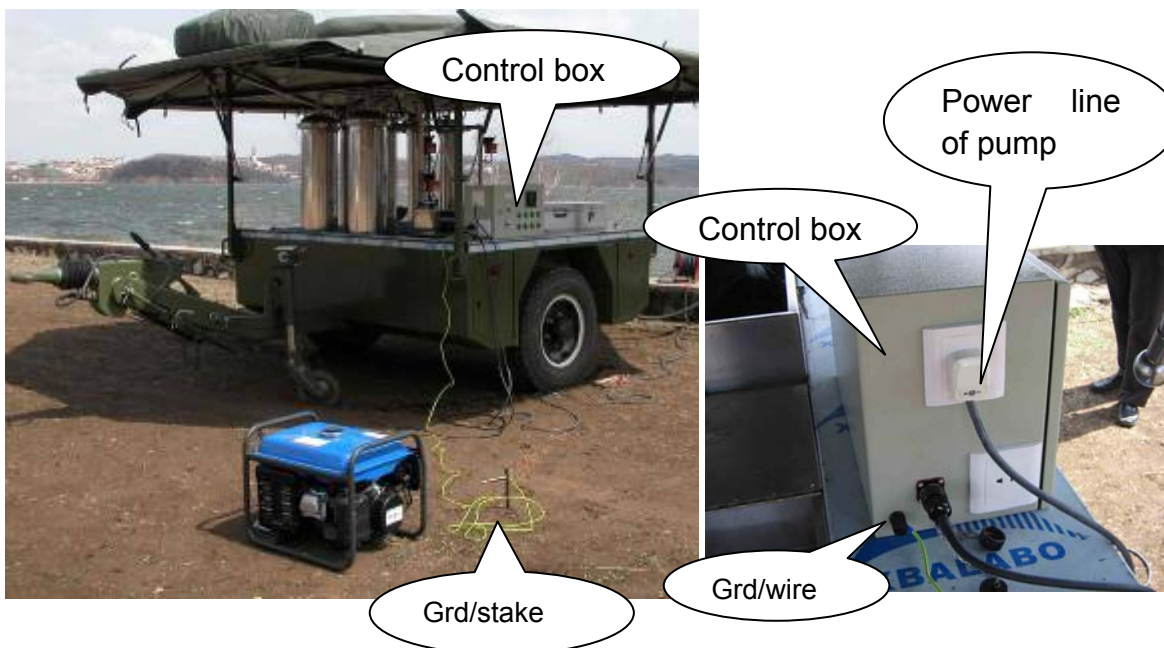

Fig. 2.5-4
- 2) Connect the power cable of the submersible pump (see Fig. 2.5-4).
(see Fig. 2.5-4).